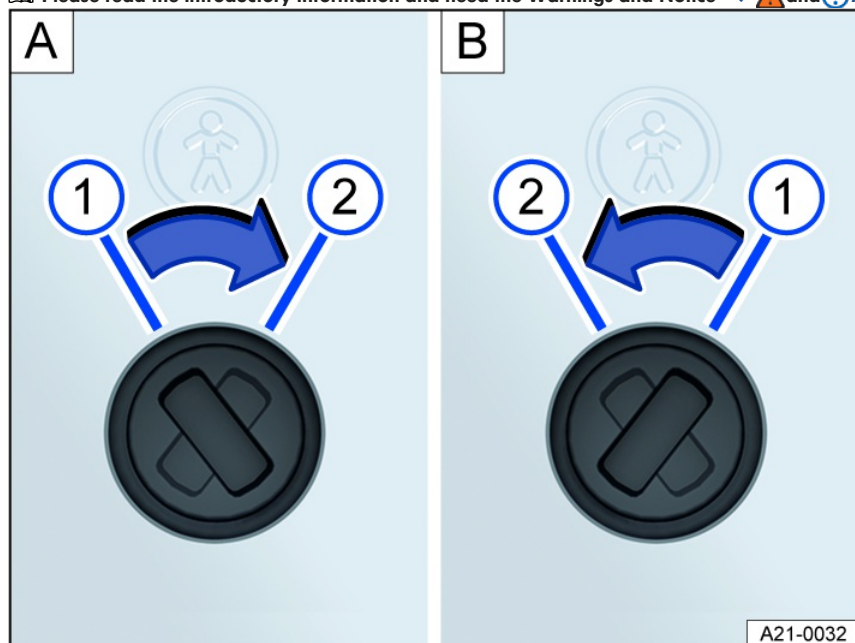

Fig. 62 Child safety lock: **A** left rear door, **B** right rear door.
2. Bring the slot into the corresponding position *fig. 62*.